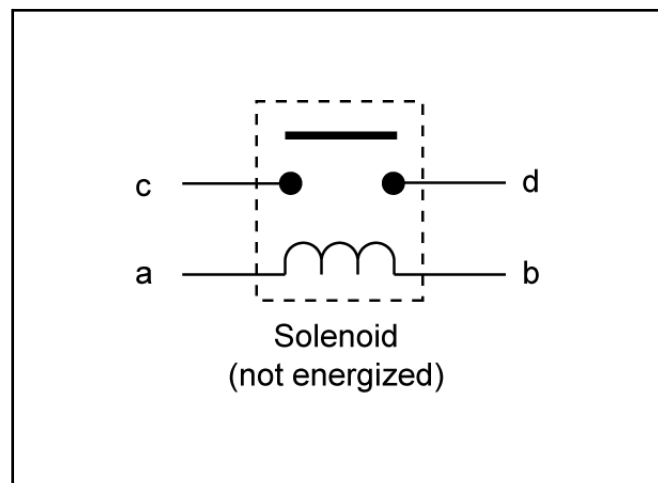

Figure 20 XL Solenoid
The solenoid has two primary parts. One is a coil of wire wrapped around an iron core. Whenever 12 volts is applied to the coil, it becomes a magnet. The other part is a bar type switch (Figure 20). Because it has a large contact area with the contact terminals it can easily handle the high current loads required by the starter motor.
2. With a multimeter (ohms setting), check to ensure that terminals “c” and “d” are open (no continuity) (Figure 20).
3. Apply +12 VDC to terminal “a” and ground terminal “b”. Terminals “c” and “d” should now be closed (continuity) (Figure 20).